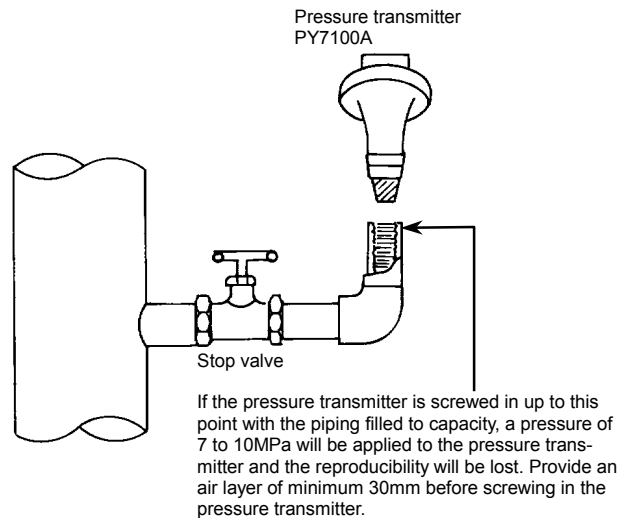

Fig.3 Notes on installation
Prepare a pressure outlet on the piping, and mount stop valves and R1/2 female screws as shown in Fig. 3. Screw in the pressure transmitter unit next.
- Output signals can be checked across the (+) terminal and terminal CHECK by using an ammeter of 10 Ω or less. (See Fig. 3)